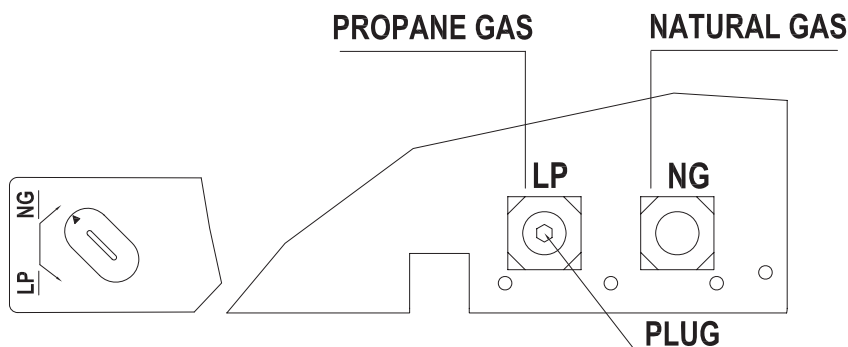

Figure 16
2. For NATURAL GAS, press knob using a flat screw driver with a blade the thickness of a quarter and turn knob clockwise  until the knob locks into the NG position (see Figure 16). Selection valve must be locked in the NG position. Do not operate heater between locked positions!